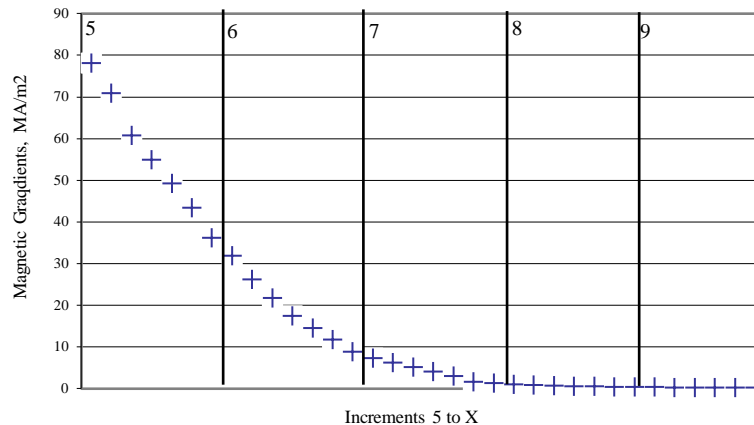

Figure 1: Each "+" represents the magnitude of magnetic gradients appearing on the T2K card
**Type 2000 Card:** Unique magnetic encoding on the T2K card forms discrete magnetic gradients that can also form particle indications. The value of the gradients can be determined and are shown in Figure 1. The gradients decrease from about 8.6 MA/m2 to less than 1.5 MA/m2 between the 7th and 8th increments along the T2K stripes.